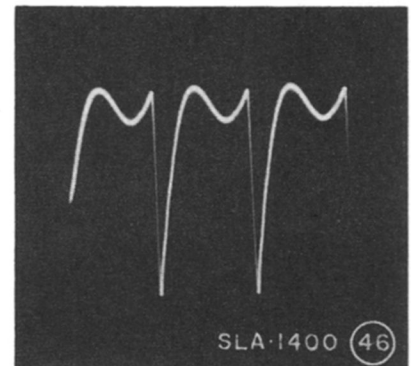

Fig. 127—Waveform at Junction of L-118, L-119 and R-164. Adjusted to Obtain Correct Waveform.
5. Adjust L-119 to obtain waveform shown in figure 127.